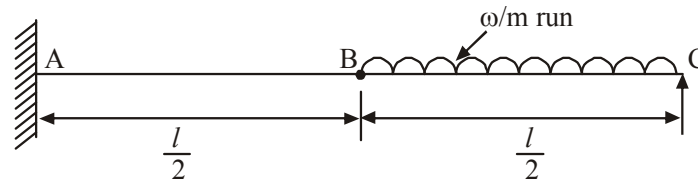

FIG. 3
- b) The propped cantilever shown in Fig. 3 is subjected to partial u.d.l. Compute the ultimate load. (15)